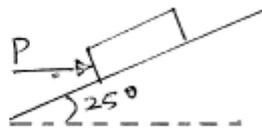

Fig. 5. Q.3(a)
- Q.3** (a) A block of mass 100 kg is placed on an incline as shown in Fig.5. If  $\mu_s = 0.35$  and  $\mu_k = 0.25$ , determine the magnitude of horizontal force P, required to start the block to move up the plane. **07**